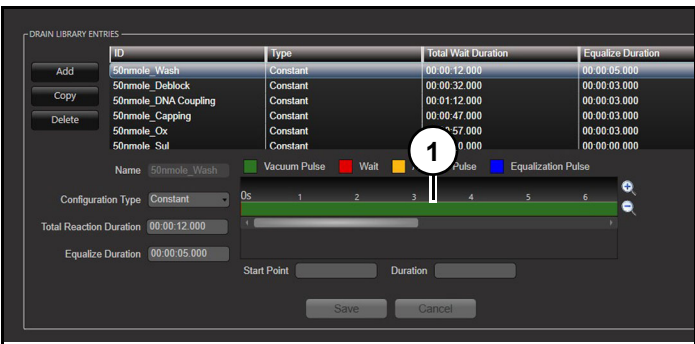

Figure 24
A constant vacuum pulse (1) (Figure 24) is a pulse that applies same length of vacuum to column chuck regardless of number of active columns. This is default vacuum setting when a new pulse is added to drain library and used most often. There is no compensation for dropped columns and is possible to find a good working range where dropouts do not negatively affect other columns.